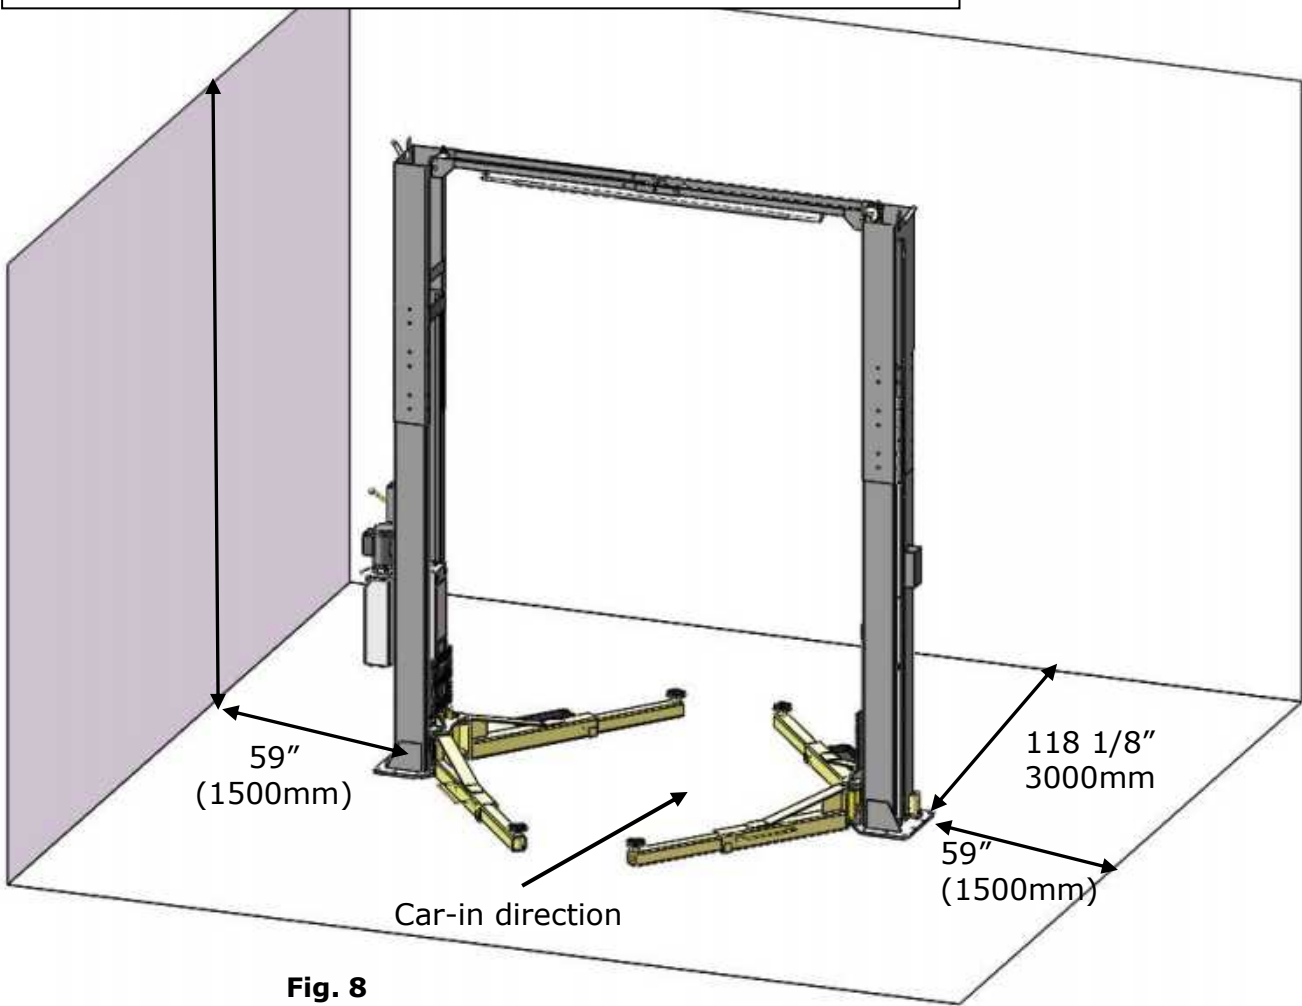

Fig. 8
1. Installation space: Ensure there is enough space for the lift. Accurately measure the front, back, side and top mounting dimensions and refer to the below figure data(**See Fig. 8**).